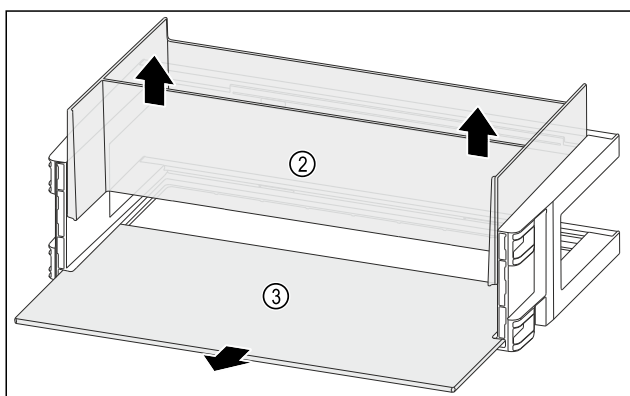

Fig. 131
- ▶ Izvadite organizator Fig. 131 (2) prema gore.
- ▶ Izvadite policu Fig. 131 (3).